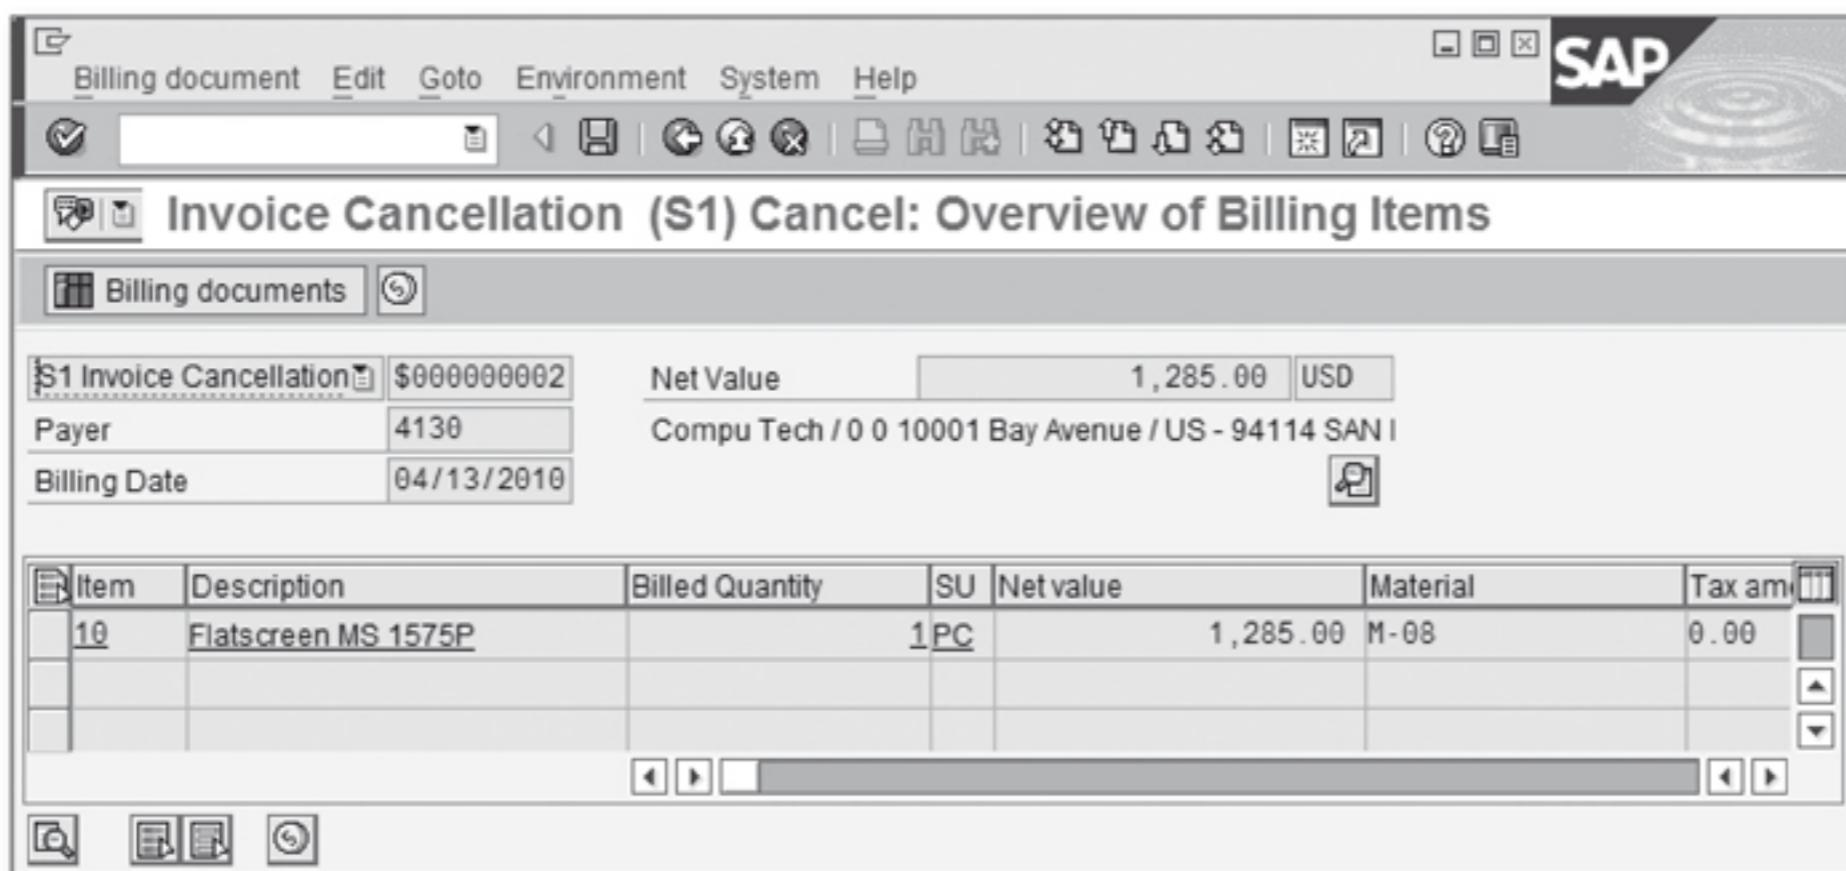

Figure 5.27 Cancellation Document Overview
3. Here you can also make the decision to cancel individual items by removing the unwanted items from the proposed cancellation document (Figure 5.27).